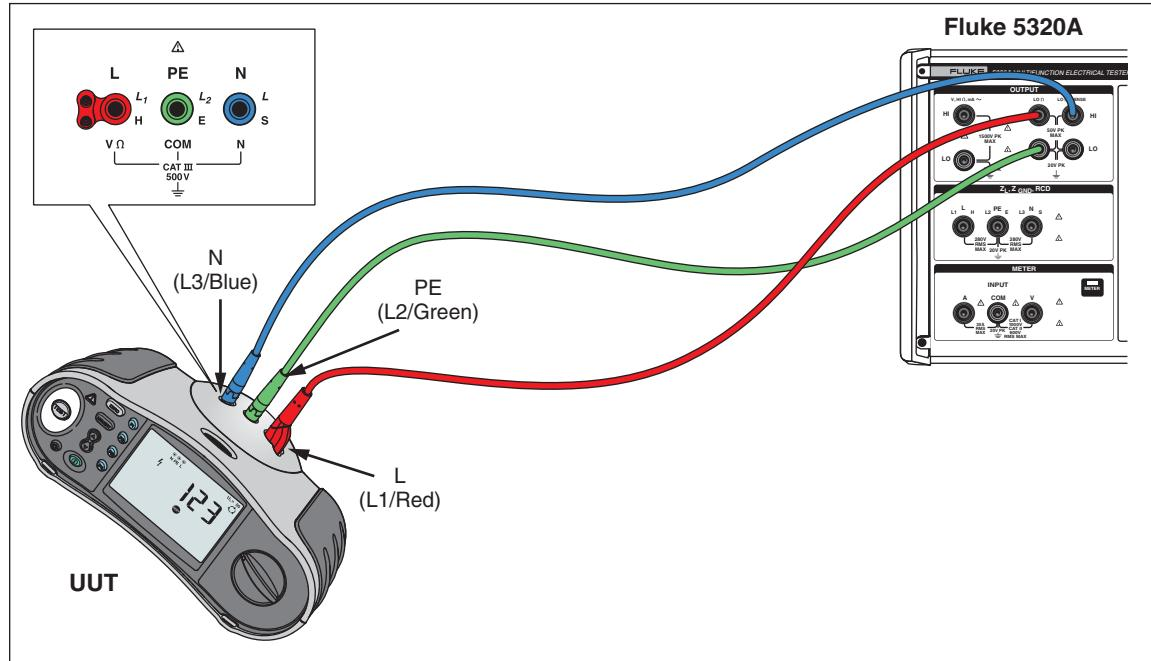

Figure 10. Earth Resistance Tests
2. Connect the UUT to the 5320A LO Ω Output terminals as shown in Figure 10.